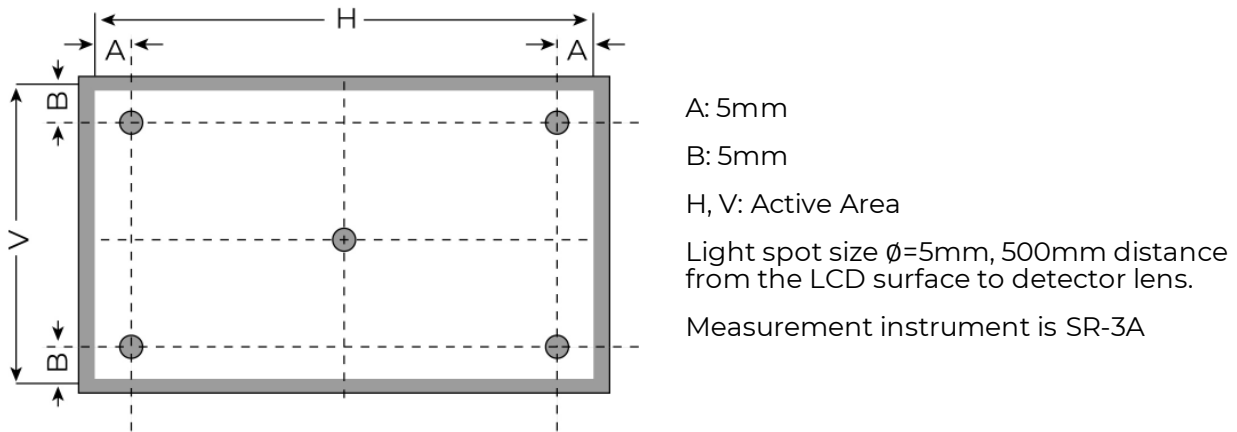

Figure 3. Measuring method for Contrast ratio, surface luminance, Luminance uniformity, CIE (x,y) chromaticity
Note 1. Contrast Ratio (CR) is defined mathematically as below, for more information see Figure 3.
Note 2. Surface luminance is the LCD surface from the surface with all pixels displaying white. For more information see Figure 3.
Note 3. The uniformity in surface luminance δ WHITE is determined by measuring luminance at each test position 1 through 5, and then dividing the minimum luminance of 5 points luminance by maximum luminance of 5 points luminance. For more information see Figure 3.